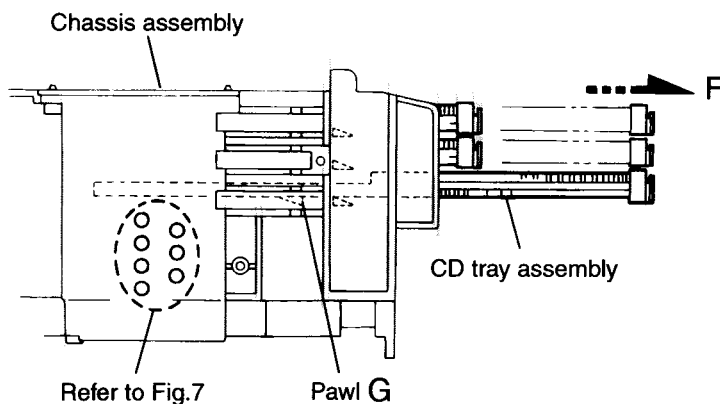

Fig.6
12. Make sure that the driver unit elevator is positioned as shown in Fig.6 from to the second or fifth hole on the left side face of the CD changer mechanism assembly.
14. Pull out all of the three stages of CD tray assembly in the arrow direction F until these stages stop (See Fig.6).